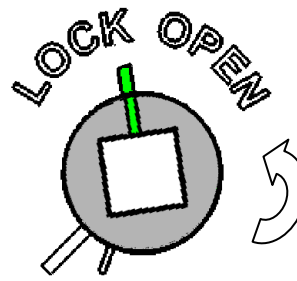

figure 2
3. Turn cam counterclockwise until lock opens. The cam should be lined up with the "LOCK OPEN" line on the cover (see figure 2).